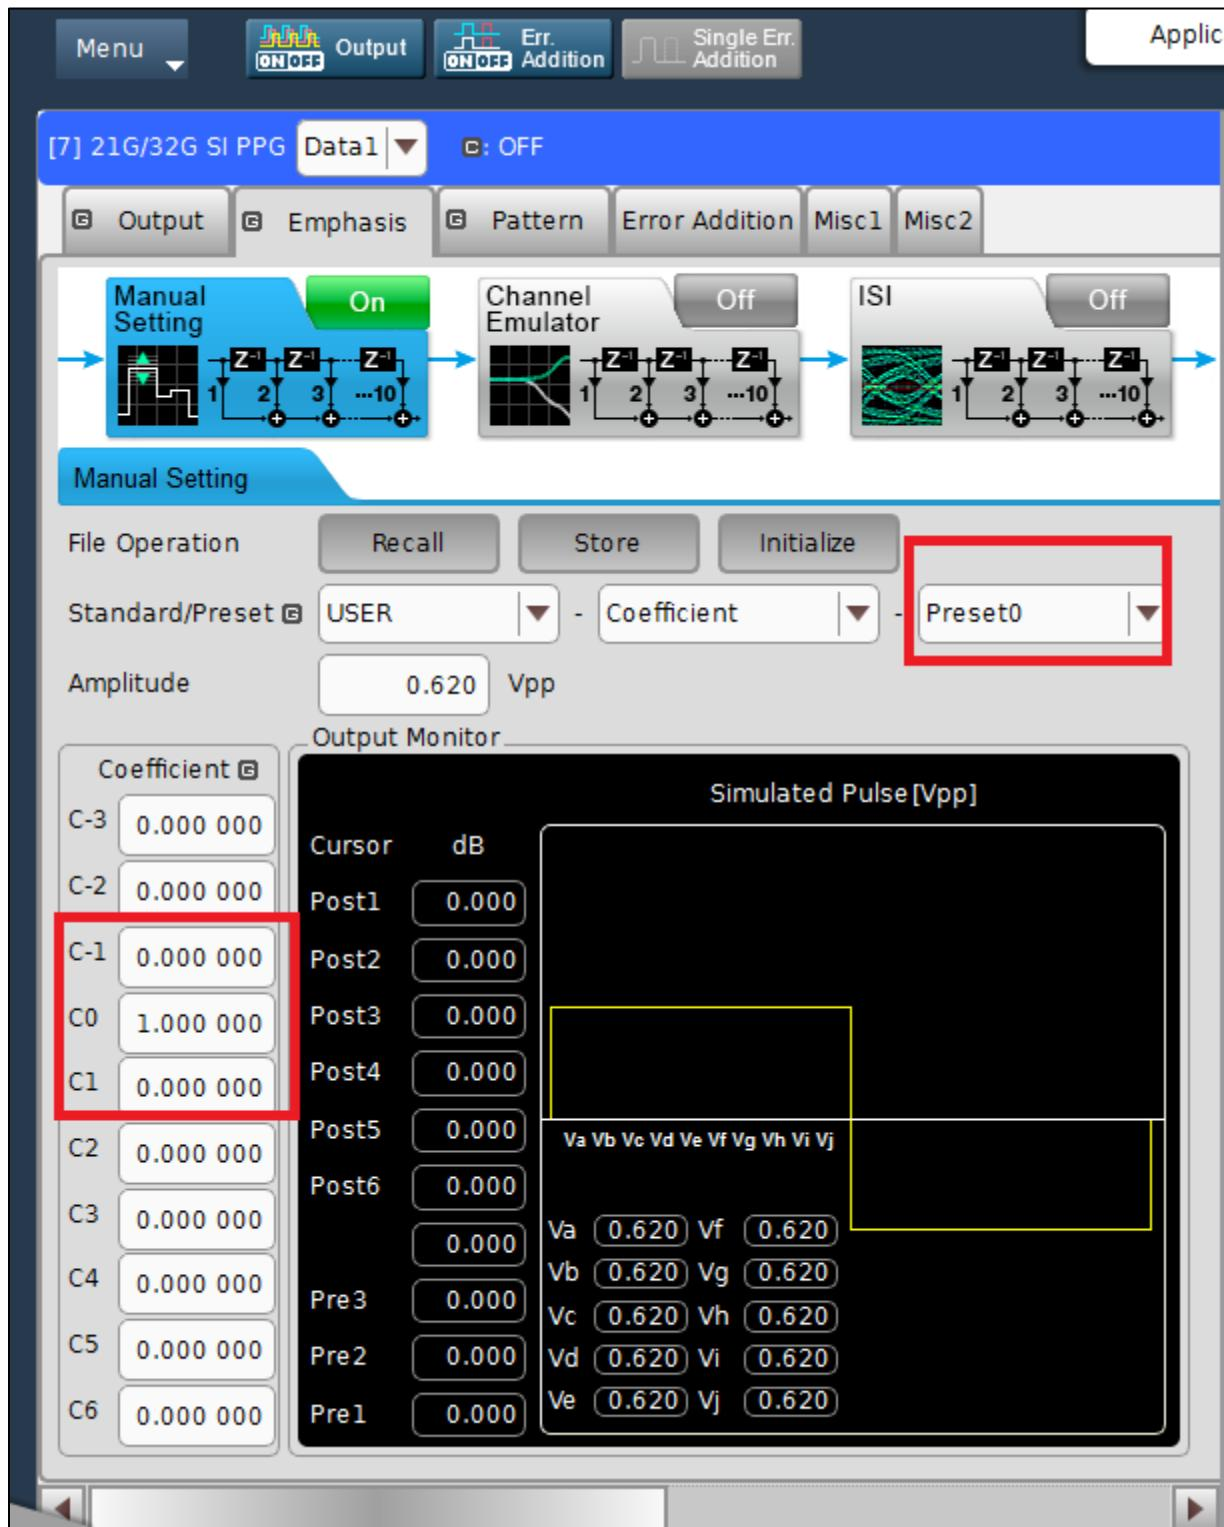

FIGURE 55. 4TAP EMPHASIS CH1 INTERFACE
2. In 4Tap Emphasis Ch1 Menu, create 15 Presets with coefficients which match the Table in the DisplayPort 2.1 Specification. See Figure 55 below.